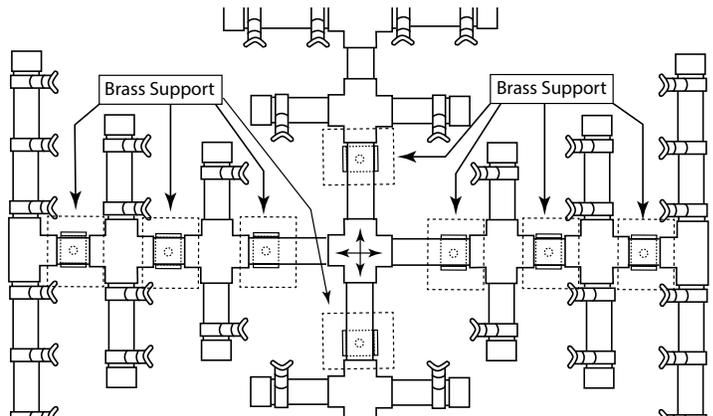

Fig. 6 Locating brass burner supports.
Step 3: Temporally place the brass burner supports under each burner leg as shown in Fig. 6, starting from the middle of the burner at the 4-way fitting and between each section of the injectors.